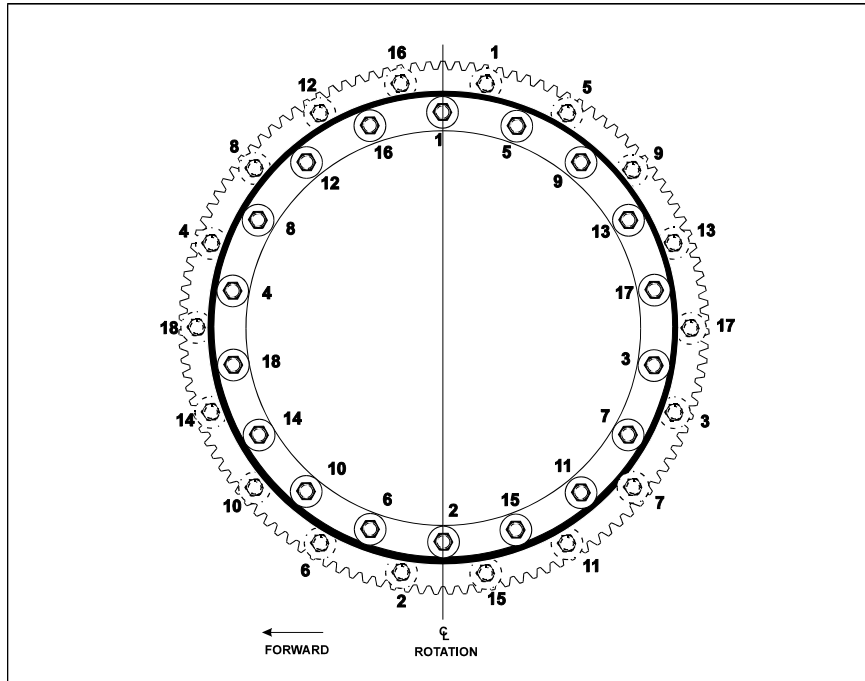

Figure 3-65. Swing Bearing Torque Sequence
3. Refer to the Torque Sequence diagram as shown in Figure 3-65., Swing Bearing Torque Sequence. Clean any residue off the new bearing bolts, then apply a light coating of JLG Threadlocker P/N 0100019 and install the bolts and washers through the frame and outer race of the bearing. Tighten the bolts to an initial torque of 190 ft. lbs. (260 Nm) w/Loctite.
8. Following the Torque Sequence diagram shown in Figure 3-65., Swing Bearing Torque Sequence, tighten the bolts to a torque of 190 ft. lbs. (258 Nm) w/Loctite.